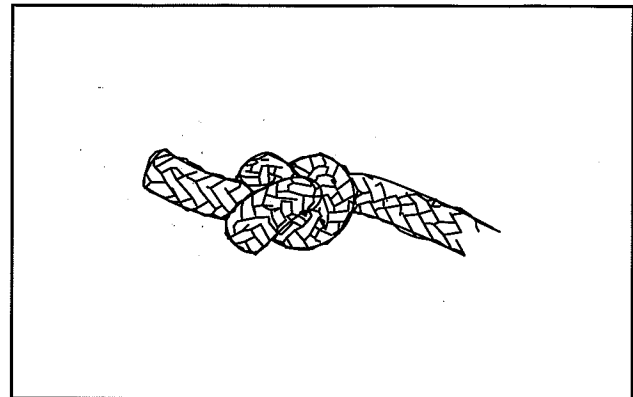

Fig. 4 – Tie Figure Eight Knot
2. Tie a figure eight knot at one end of rope, Fig. 4.